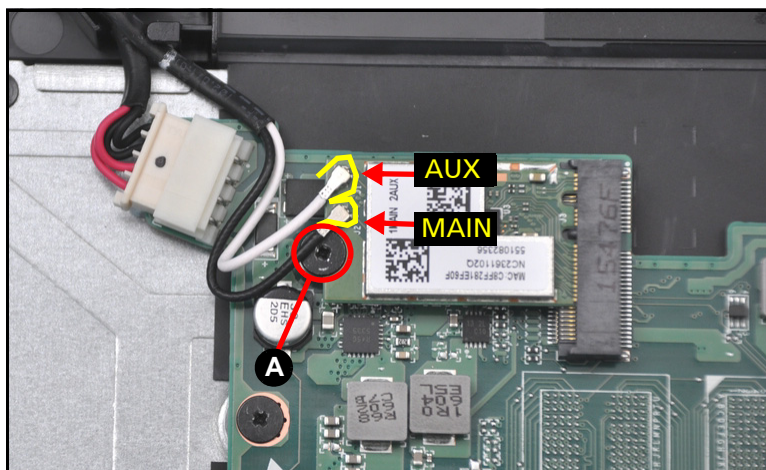

Figure 3-104. Replacing the WLAN Module
2. Install and secure one (1) screw (A) to the WLAN module (Figure 3-104).
3. Connect the AUX antenna (white-color) to the WLAN AUX pin (Figure 3-104).
4. Connect the MAIN antenna (black-color) to the WLAN MAIN pin (Figure 3-104).